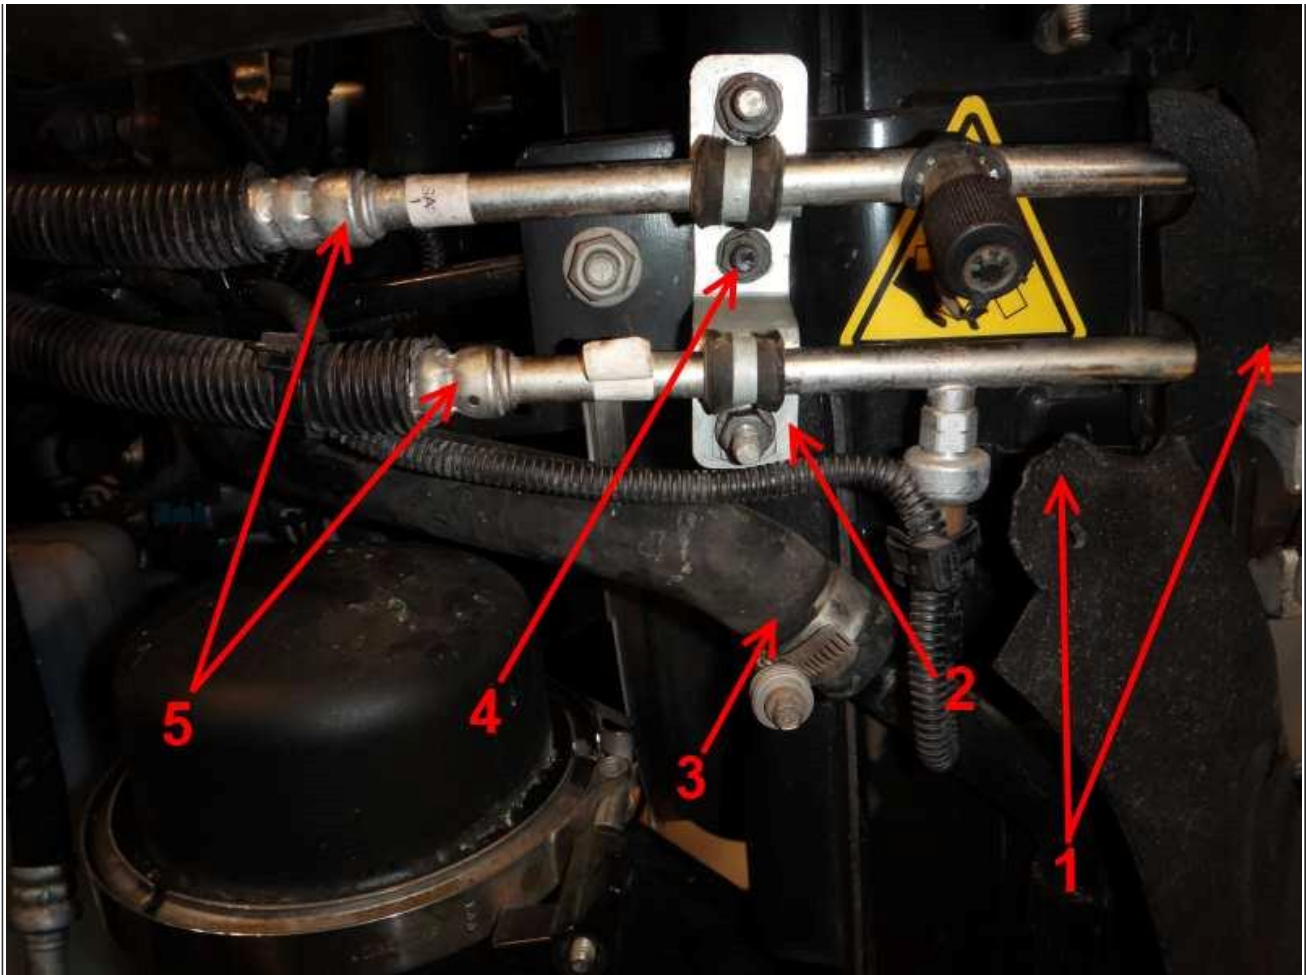

Figure 25: A/C Line Bracket
21. Attach the LTR hose and tighten the clamp (**Figure 25**, Item 3).
22. Install the A/C line bracket and torque the nut to 15 lb-ft (20 N-m) (**Figure 25**, Item 4).